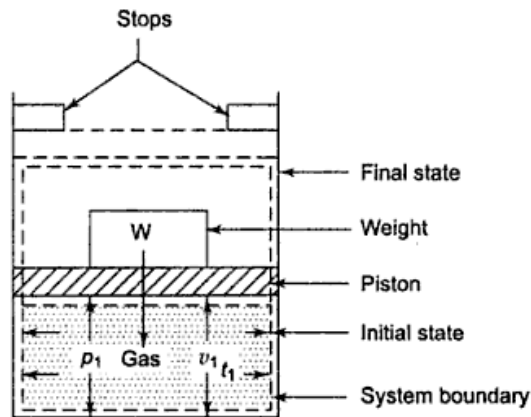

Fig.1.10 (a). Transition between two equilibrium states by an unbalanced force
When a gas in a piston cylinder device is compressed suddenly as shown in Fig.1.10 (a) the molecules near the face of the piston will not have enough time to escape & they will have to pile-up in a small region in front of the piston, thus creating a high pressure region there. Because of this pressure difference, the entire process is non equilibrium or non quasi equilibrium.
- However if the piston is moved slowly as shown in Fig.1.10(b) the molecules will have sufficient time to redistribute and there will not be molecule pile up in front of the piston. As a result the pressure inside a cylinder will always be nearly uniform and will rise at the same rate at all locations. So this is a equilibrium process. Here the piston moves in such conditions that the opposing force is always infinitely smaller than the forces exerted on the system.